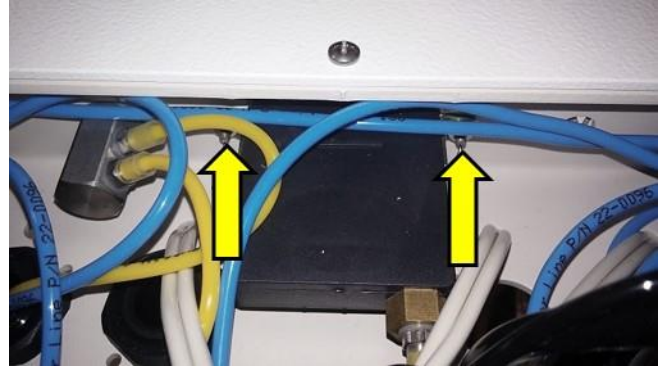

Fig. 1
3. Remove Handpiece Pressure Gauge for drill access. Remove two nuts holding gauge to unit using 1/4" nut driver or small 1/4" crescent wrench. (Fig. 1)